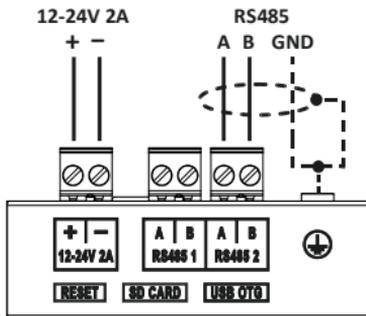

Fig. 5
7. Connect RS485 lines. If common ground wire is needed, connect it to the grounding terminal (Fig. 5).
8. If shielded cabling is in use, connect the shield to the grounding terminal at one end only (Fig. 5).